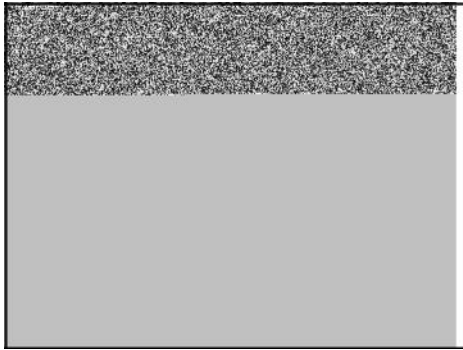

Figure 20
5. Using Bushing Driver #19057 (**A**, Figure 20), install new needle seat with grooved edge down (**B**) until firmly seated.